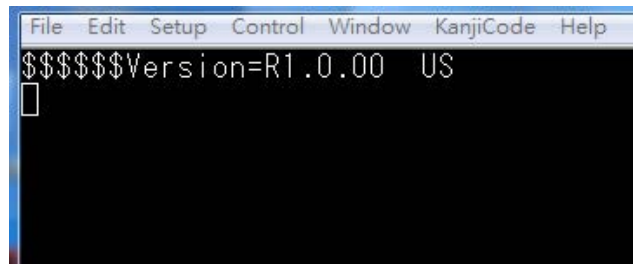

Figure 10 Image version is shown on terminal
3. Terminal will show the image version as Figure 10.